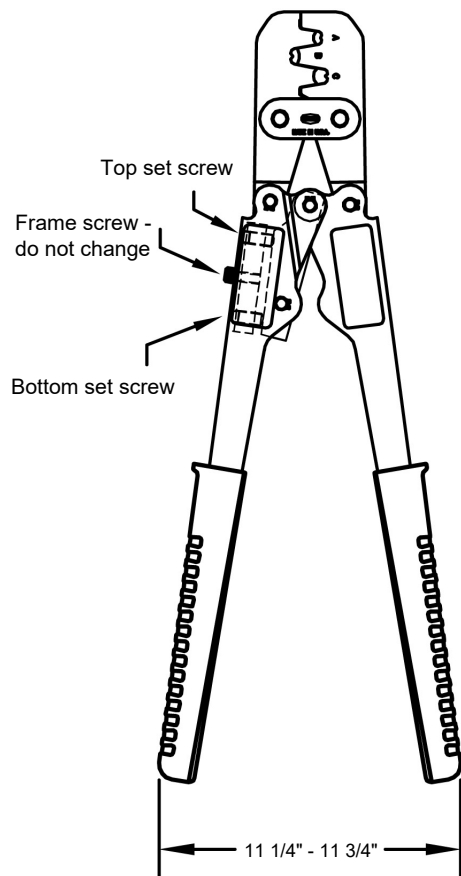

Figure 1
- 3) To calibrate the tool, loosen the bottom set screw slightly by turning counter clockwise. Then tighten the top set screw by turning clockwise until the distance between the handles is 11 1/4"-11 3/4" as shown on figure 1. Tighten the bottom set screw to clamp the setting.